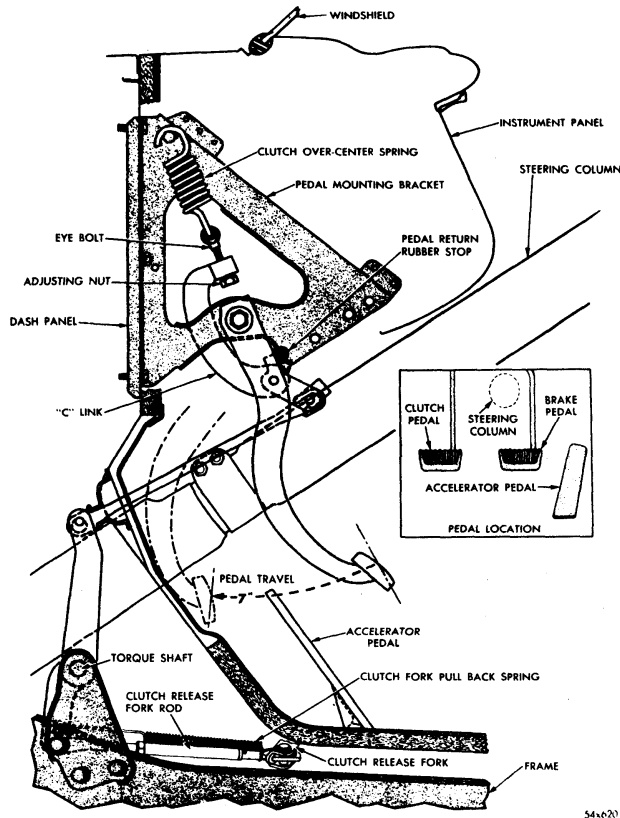

Fig. 1—Suspended Clutch Pedal and Linkage
Clutch pedal free play is the movement of the clutch pedal before the clutch starts to engage or disengage. To compensate for normal clutch wear, adjust the clutch release fork rod, as shown in Figure 1, to obtain $\frac{3}{16}$ inch free play of the clutch release fork outer end. This will provide the one inch free pedal movement at the pedal, with a total of seven inch full pedal travel.
(FIGS. 1 AND 2)
3. CLUTCH RELEASE FORK (FIGS. 1, 2 AND 3)
Unhook the clutch release fork pull-back spring (Fig. 1). Disconnect the rear end of the clutch release fork rod from the fork by removing the retaining spring and flat washer. Lift out the clevis pin and separate the clutch release fork rod from fork.